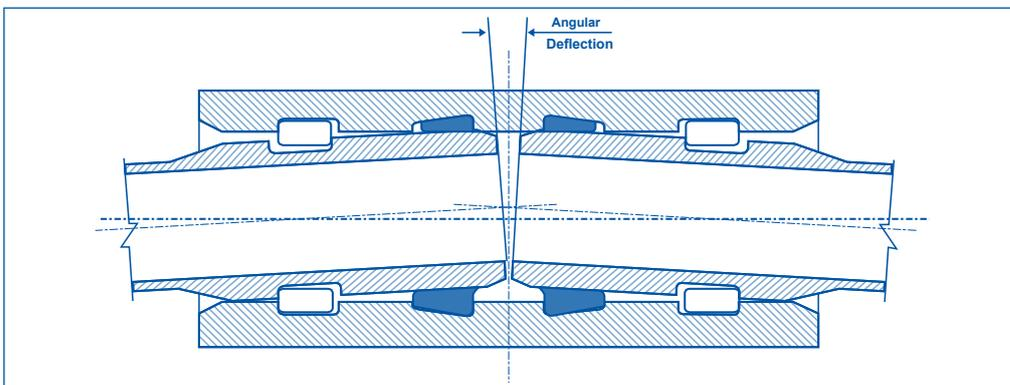

Figure 19: Angular Deflection of the Joint
13. The angular deflections are in line with ASTM D4161. The maximum allowable angular deflection of the **FIBERSTRONG®** RSLJ measured between the pipes, as shown in Figure 19, is 3° for diameters up to 500 mm (20") and 2° for larger sizes. It is not recommended to reach these values during installation.